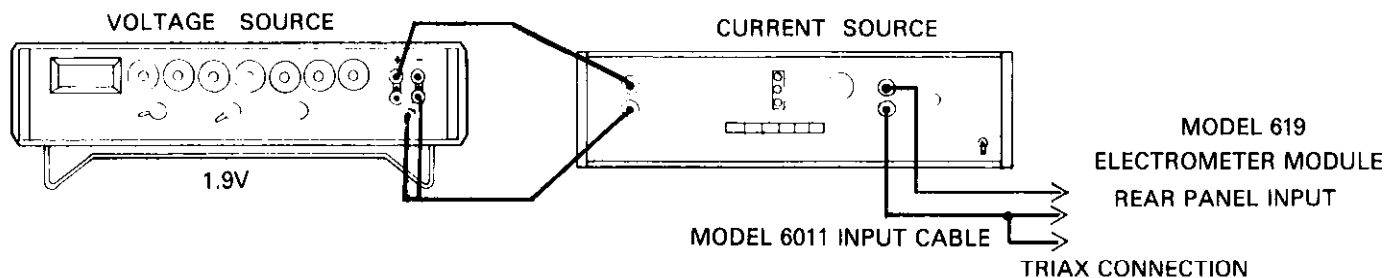

Figure 6-5. Range Calibration 20mA
6. 20mA Range Calibration: Zero Check the Model 619 and set it to the Amps function. Uprange to the 20mA range and verify a display reading of 19.000 -3 using Zero Correct if necessary. Release Zero Check and apply a +19.000mA input, adjust R651 for a display reading of 19.000 -3 to within ± 2 counts. Refer to Figure 6-5.